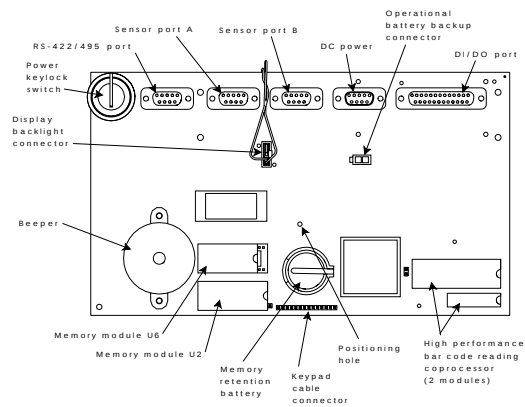

Figure 1-1. Processor board components
Refer to Figure 1-1 on page 1-2 for the location of the memory retention battery, and use the following procedure.
The optional Operational Battery Backup Feature is a rechargeable nickel-cadmium (nicad) battery that is plugged into a socket on the processor board. This battery is attached to the inside of the metal backplate by a hook-and-loop strip. If this feature is to be installed, you must open the terminal to install it. Use the following procedure. (Refer to Figure 1-1 on page 1-2 for locations.)
If optional memory is to be installed, you must open the terminal to install it. Refer to Figure 1-1 on page 1-2 for the location of the memory modules, and use the following procedure.
7. Referring to Figure 1-1 on page 1-2, locate the module socket(s) to be filled by the new memory module(s).